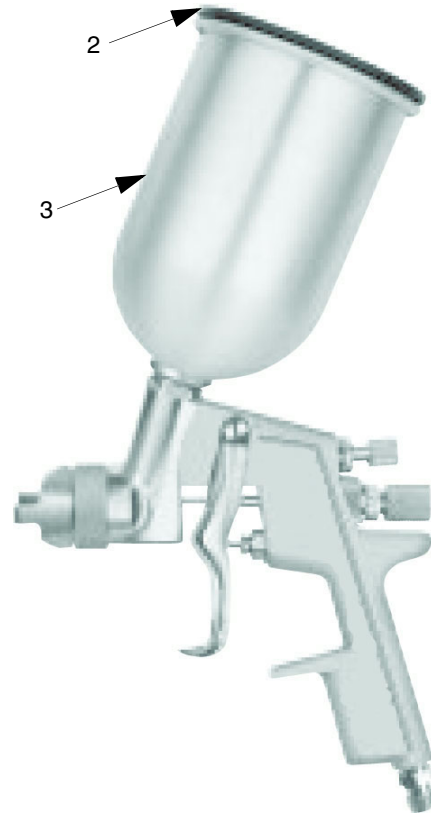

FIG. 2
2. Screw the cup hand tight onto the gun. See FIG. 2.
3. Remove the cup lid (2) and fill the cup with fluid.
4. Tighten the lid (2) onto the cup (3).